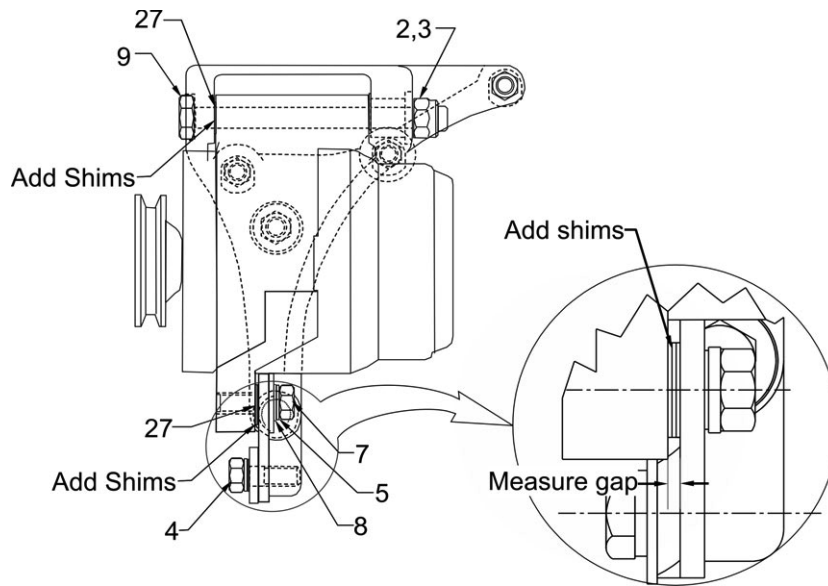

Figure 3. Bracket Shims
- b. If misalignment is greater than 0.016 inch, the alternator is not properly aligned. Align the two sheaves by first removing the lock nut (3) and washer (2) from the bolt (9) and insert shims (27) between the forward boss of the mounting bracket (1) and the upper alternator assembly (19) mounting (see Figure 3, “Bracket Shims,” on page 5). Secure the bolt (9) and torque the nut (3) to 250 in. lbs. to seat the alternator bracket bushing then back-off the nut (3) one full-turn counter-clockwise.
9. Align the slotted hole in the adjustable brace (15) with the threaded lower boss on the bracket assembly (1) and install a pivot bolt (4), new lock washer (5), and washer (6) through the adjustable brace (15) into the threaded lower bolt hole of the bracket assembly (1).
10. Raise the adjustable brace (15) to align the round bolt hole with outboard alternator assembly (19) mounting boss and temporarily torque the pivot bolt (4) to 150 in. lbs.
12. Loosen the pivot bolt (Figure 3, item 4) and insert shims (27) to completely fill the gap between the brace and the outboard alternator mounting boss. Install adjustment bolt (7), new lock washer (5), and washer (8) through the shims (27) and adjustable brace (15) and into the threaded outboard alternator mounting boss.
13. Install V-belt (20) and adjust the belt tension:
- b. Adjust the V-belt (20) tension until deflection is less than 0.11 inch (at 6-8 lbs) and securely tighten the adjustment bolt (7).